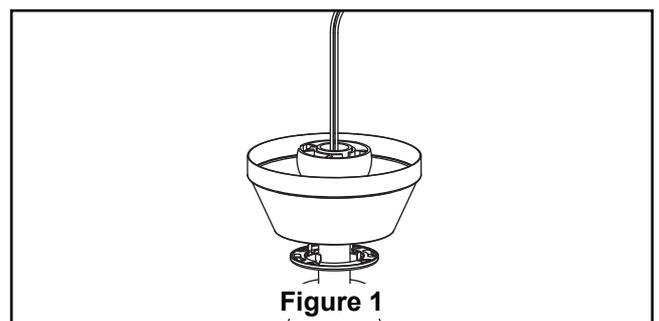

Figure 1
**CAUTION:** Do not remove or cut off the wires. (Figure 1)